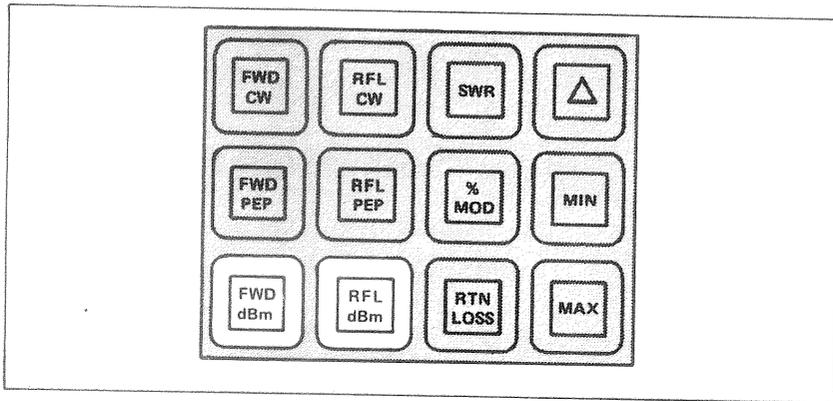

Figure 3-6. CW Power in dBm.
f. Measuring Power in dBm. (Figure 3-6.) Operation of the forward and reflected dBm modes is identical to the forward and reflected CW power modes, except that the resulting reading is converted to dB above 1 milliwatt before it is displayed. It should be noted that in doing this conversion, the range set on the slide switches is assumed to be watts rather than kilowatts or milliwatts. If it is not, 30.0 must be added to all dBm readings when the range is in kilowatts, or subtracted from all readings when it is in milliwatts. An error message is displayed if CW power is more than 24dB below, or peak power is more than 6dB above the nominal element range. Refer to Table 3-3.